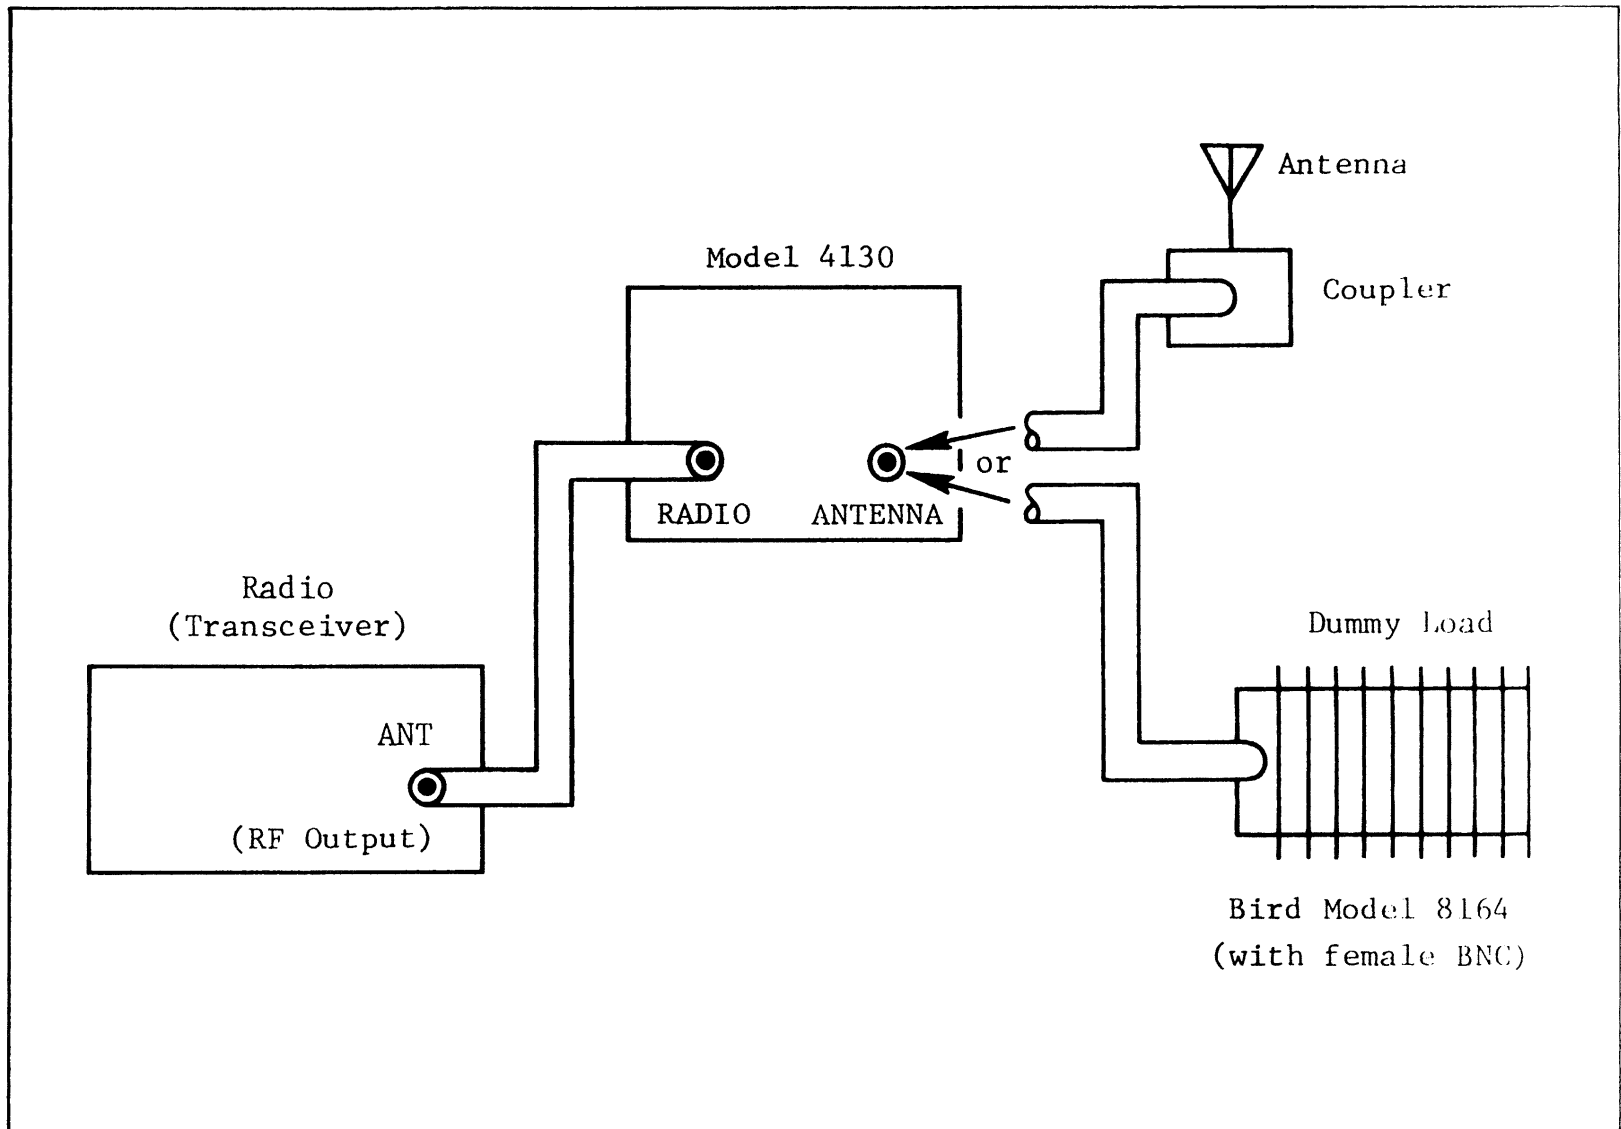

Figure 3-1 In-Line Connection
3-2 IN-LINE CONNECTION. Figure 3-1 shows the in-line hookup where the Model 4130 is connected between the radio being tested and its associated antenna or dummy load.
- (a) Connect the Model 4130 in the transmission line between the transmitter and antenna or dummy load, as shown in Figure 3-1.
- (a) Connect the Model 4130 in the transmission line between the transmitter and the antenna or dummy load, as shown in Figure 3-1.